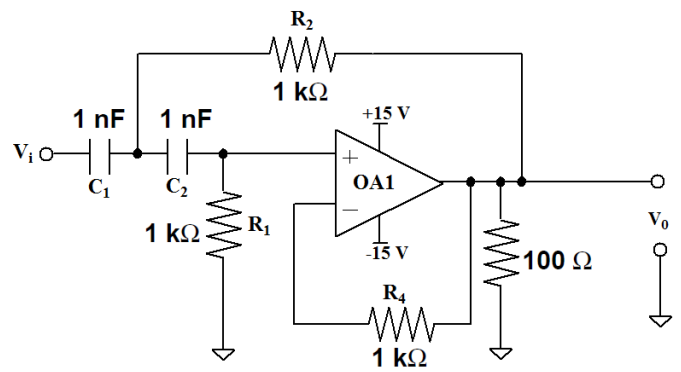

Fig. Q3C
- 3A. Shock sensors are widely used in detecting abnormal vibrations in industrial motors. They behave like piezoelectric sensors. In the application here, the motor runs at variable speeds and the maximum shock sensed is 50G. The electric signals from the shock sensor is fed to a charge amplifier configured in its charge mode. The charge source is defined to be $0.35pC/G$, while the shunt resistor and capacitor were defined to be $10G\Omega$ and $390pF$ respectively. The cable length used here was 1 meter with its capacitance being $100pF$. The analog platform is designed in such a manner that for zero input, the voltage output too should be zero. The resonant frequency of the shock sensor is $28KHz$. Design the analog signal conditioning platform (amplifier along with the active filters) such that voltage output for a fixed pass band of $160Hz - 2KHz$ is obtained. (03)
- 3B. Mention any four main functions of signal conditioning circuit. Design a Signal Conditioning circuit using OPAMP for interfacing AD590 IC temperature transducer so as to produce 0V at $0^{\circ}C$ and 10V at $100^{\circ}C$. The rate of conversion of AD590 is $1\mu A/^{\circ}K$. (03)
- 3C. For the active filter shown in **Fig. Q3C**, highlighting the involved steps, derive the mathematical model in Laplace domain and comment on the type of the filter architecture. Further, determine the cut off frequency/ies (in Hz) as well as the voltage amplification gain. (04)